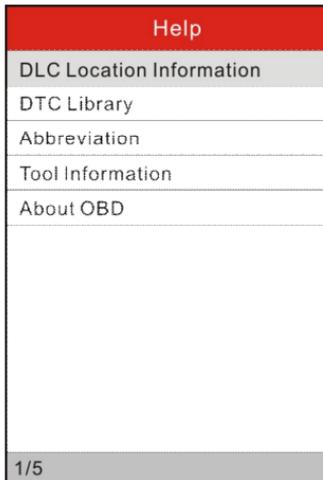

Figure 7-4
- Highlight the "Tool Information" in figure 7-4 and press [OK].